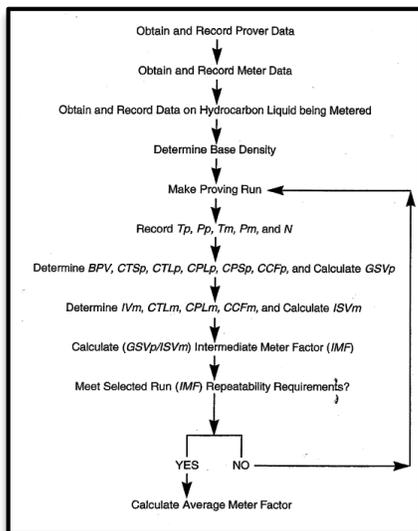

Figure 4: Flow Diagram for Meter Factor Calculation
- Perform routine net sales calculations (including meter factor determination — see Figure 4); and